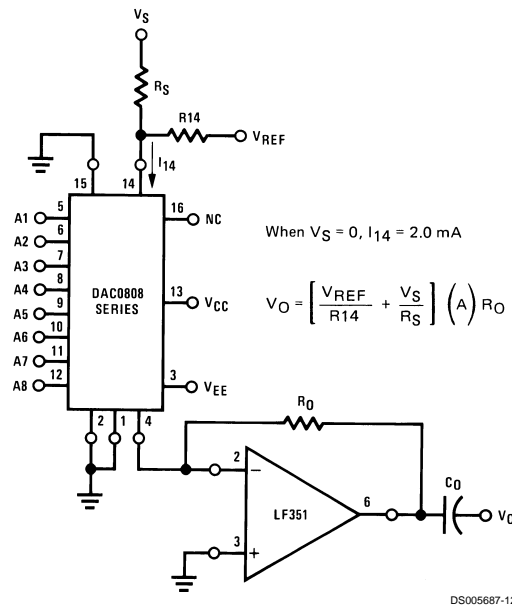

FIGURE 9. Programmable Gain Amplifier or Digital Attenuator Circuit (Note 8)
**Curve C:** Large and Small Signal Bandwidth Method of Figure 9 (no op amp,  $R_L = 50\Omega$ ),  $R_S = 50\Omega$ ,  $V_{REF} = 2V$ ,  $V_S = 100\text{ mVp-p}$  centered at 0V.